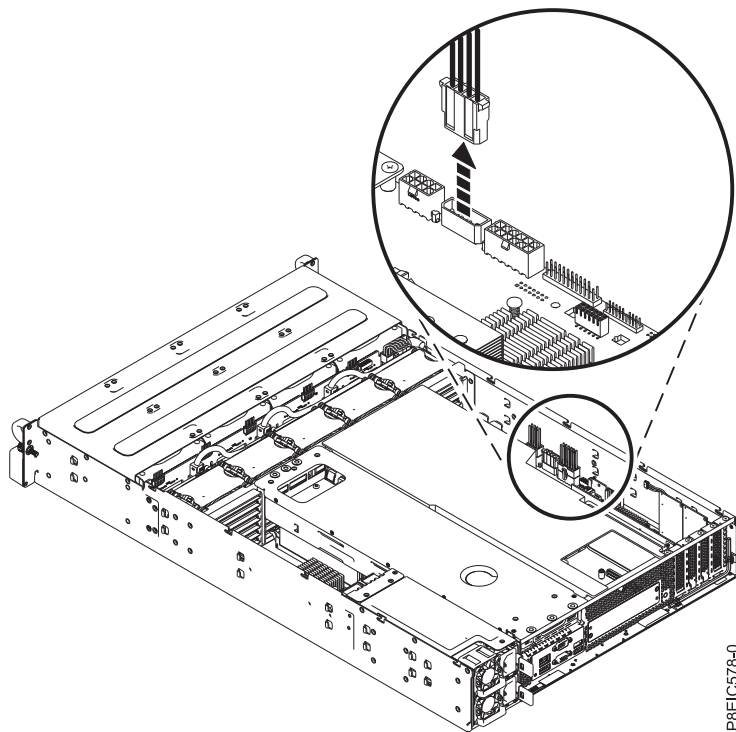

Figure 67. Disconnecting the inner drives power cable
6. Remove the inner drives power cable from the system backplane, as shown in Figure 67.